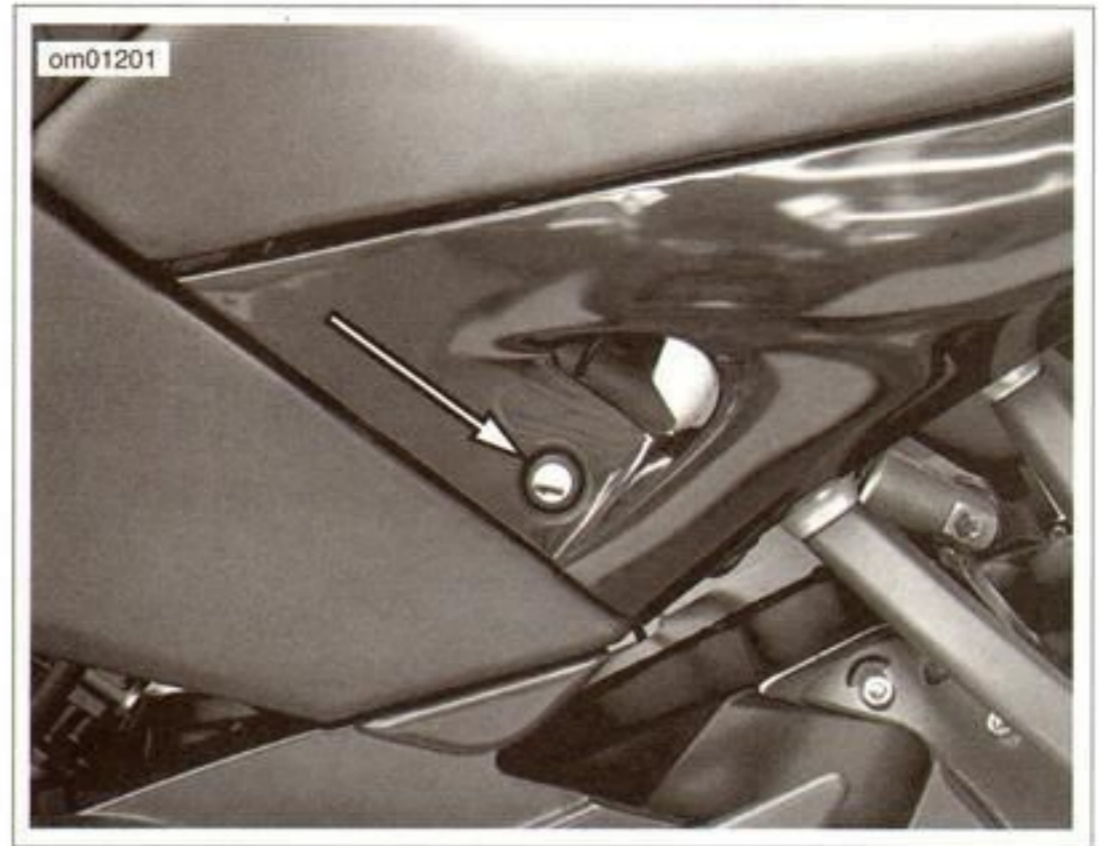

Figure 2-159. Pillion Lock: 1125 Models
1. See Figure 2-159. Insert ignition key into pillion lock located on left side of motorcycle and turn key clockwise to disengage the latch.